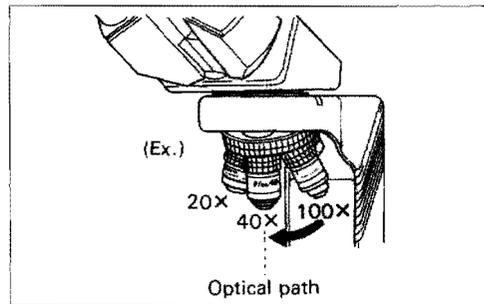

Fig.2-11
⑥ Mounting and Dismantling the Objectives
- Mount the objectives into the holes of the revolving nosepiece in such positions that, when viewed from above, their magnifying power increases as the nosepiece is revolved clockwise (Fig. 2-11).